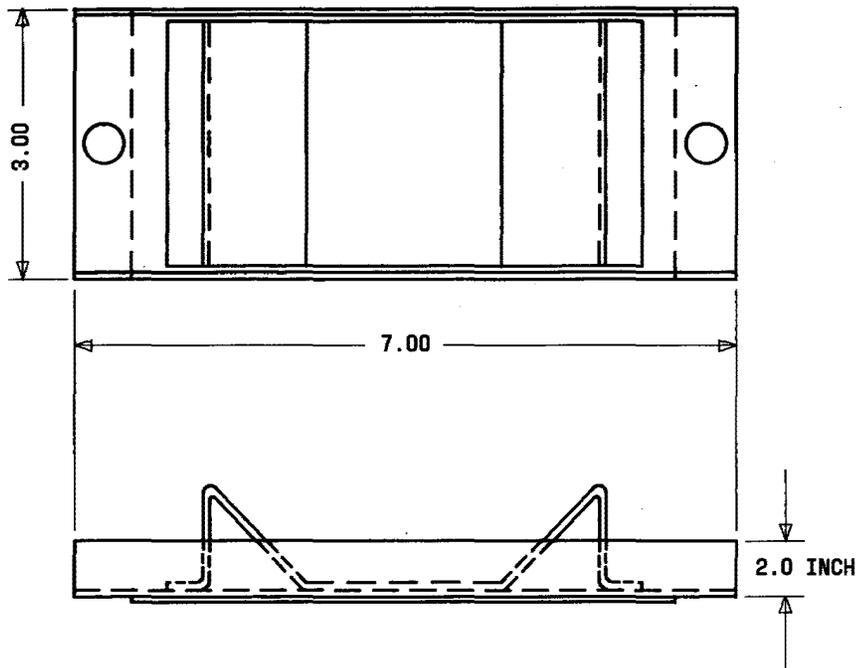

Fig. 1—Metal Ladder Block ED-99543-70, G1
4.01 ♦The Ladder Block shown in Fig. 1 is metal (ED-99543-70, G1); approximately 7 inches long, 3 inches wide, and 2 inches high and replaces the wood block (ED-99543-70 Mfr Disc.) shown in